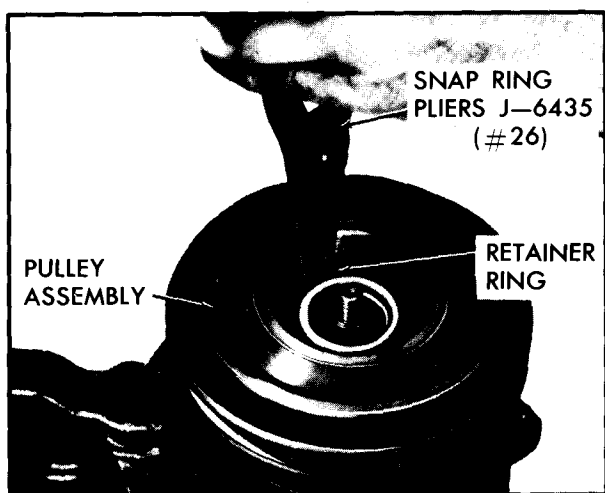

Figure 49—Removing Pulley Retainer Ring
2. Remove pulley retainer ring using Snap-Ring Pliers J-6435 (#26), Figure 49.